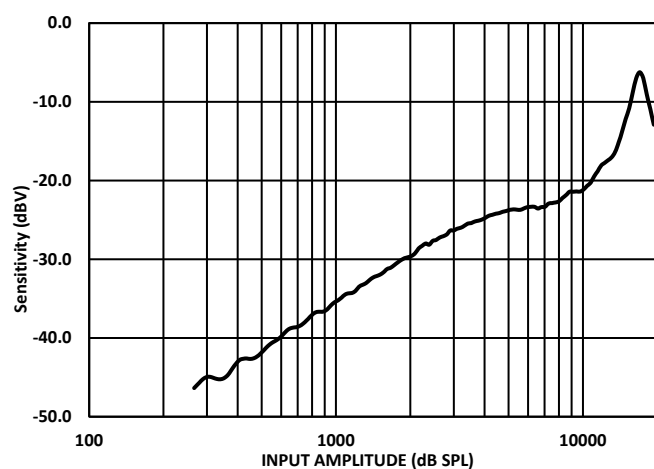

Figure 6. On-axis (0° Normalized) Uncompensated Sensitivity vs. Frequency*
*Figures 6 and 7 refer to data from our specific reference design detailed in Application Note AN-000172. Actual results are heavily dependent on system level mechanical design as mentioned in the application note.